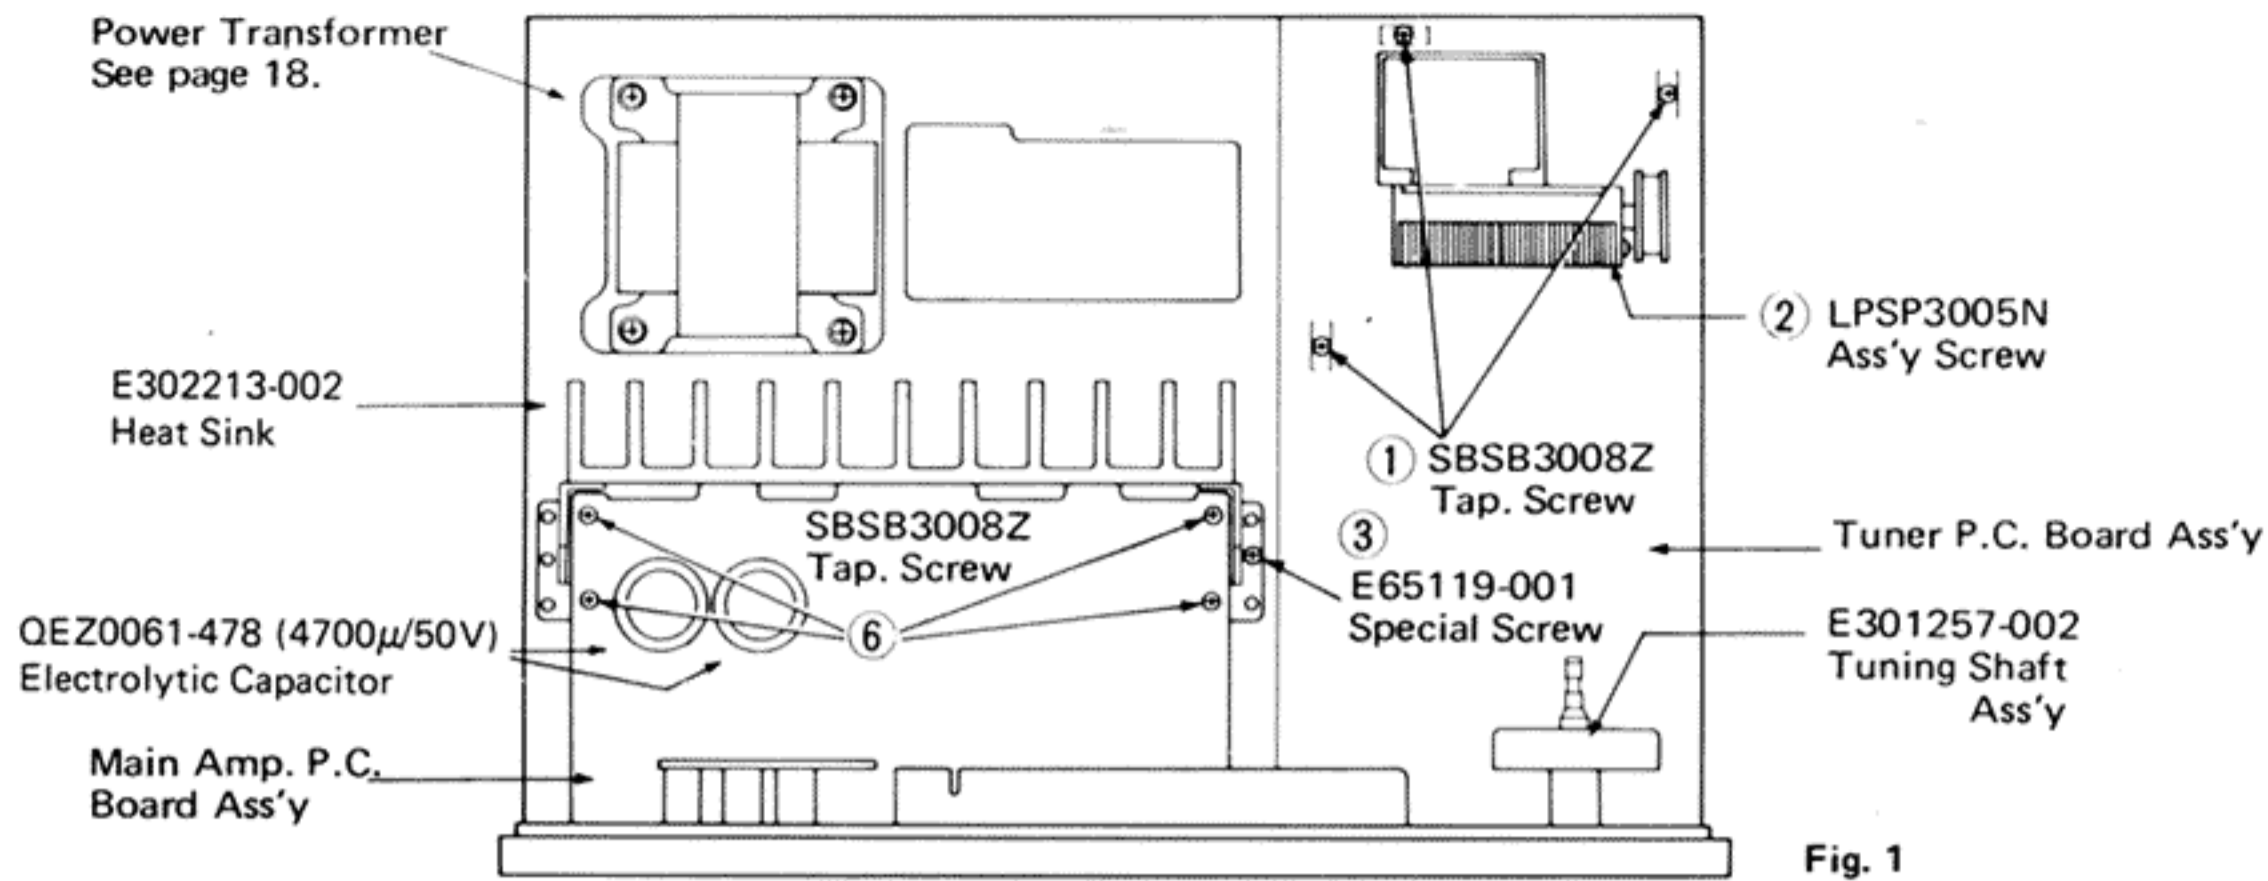

Fig. 1
- Step 1: Remove 5 screws ①, ②, ③. (Fig. 1)
Step 5: Remove 4 screws ⑥ (Fig. 1) and heat-sink from Main Amp. P.C. Board Ass'y and then replace the transistors.